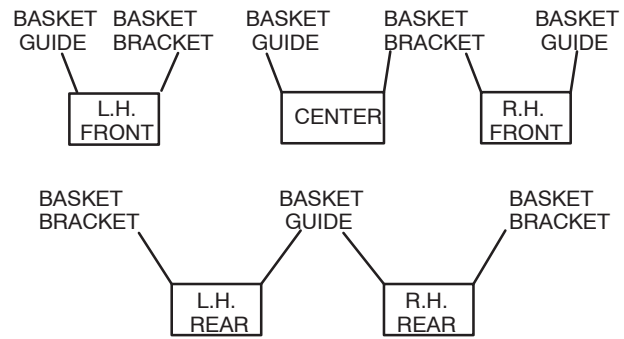
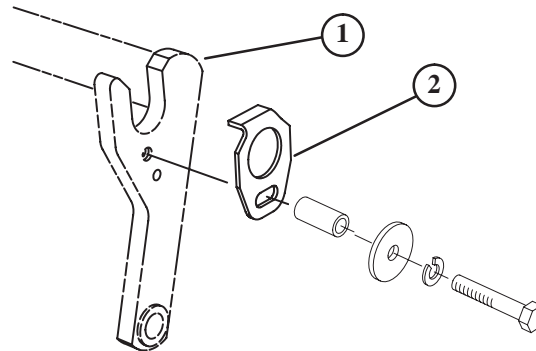
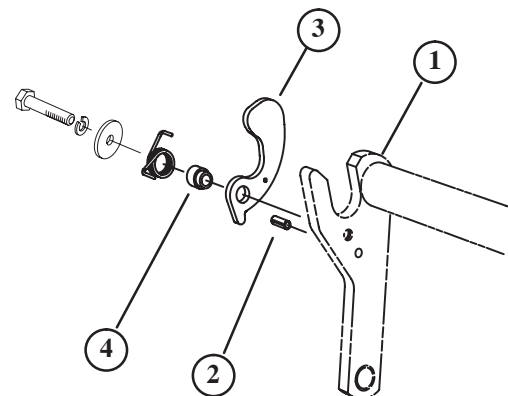

Figure 5
Figure 6
Figure 7
2. If baskets will be installed, use chart below (Fig. 5) to determine locations at which basket guides or basket brackets must be mounted to cutting unit carrier frames. If baskets are not to be installed, proceed to step 5.
3. Mount a basket guide (Fig. 6) to the appropriate side of each cutting unit carrier frame (see Figure 7) with a capscrew (5/16 x 1-3/4 in.), flat washer, and lock washer or fasteners previously removed, as shown in Figure 6.
4. Install a roll pin (Fig. 7) into hole in appropriate side of each cutting unit carrier frame (Fig. 5).